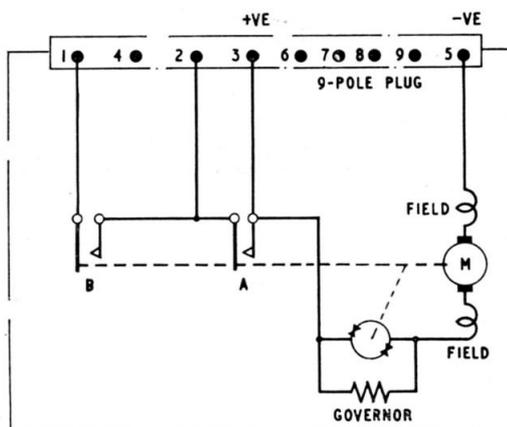

Fig. 2. Circuit diagram
6. A circuit diagram of the switch is shown in fig. 2. The operating cycle is 30 seconds.